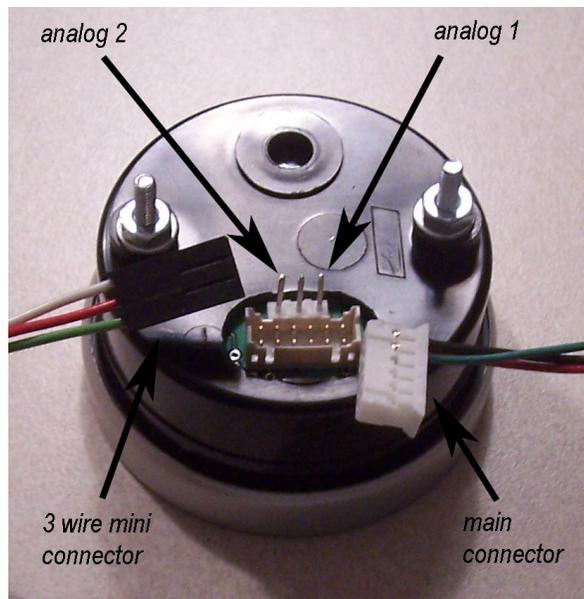

Figure 1
3. **Plug both cables into the back of the *Interceptor*.** See figure 1. Press the *Interceptor(s)* into the gauge pod or mounting hardware.
5. **Connect 3 wire mini connector power if required***. Remove the jumper next to the main connector if connecting to external power. This jumper is required for OBD2 port power only. Connect separate **red** power wire, which exits the middle of the 3 wire mini cable as shown in *figure 1*, to a switched 12v line or circuit in the vehicle. These circuits are commonly known as “accessory” circuits because they are only “hot” when the ignition is turned on. A recommended way of doing this step is to use a product called an “*Add a Circuit*”, made by *Littelfuse*, available at most car parts outlets. These kits, which sell for under \$10, allow you to easily use an existing circuit in the fuse block to power an add-on accessory such as the *Interceptor* without the need to cut or splice any wires. The use of this kit is highly recommended, as most of the problems with the gauge can be traced to a poor selection of a 12v wire, or poor connection. If the gauge randomly turns off and on while driving, 90% of the time it is a poor connection to 12v or an improper circuit was tapped into, such as a signal wire to the instrument panel.
6. **Connect the 0-5v analog inputs (optional).** You will see 3 pins above the main connector on the back of the gauge as shown in *figure 1*. The 2 outer pins connect to the analog inputs. The center pin is for switched 12v power as described above and may not be required. The right side pin, when looking at the rear of the gauge, goes to analog input 1. The left pin is for analog input 2. See *figure 1*. Included in the gauge packaging is a 3 wire cable that connects here. Once attached to the gauge, you'll see that the white wire is for analog 1, the green for analog 2. These inputs can be used to read the outputs from pressure senders, A/F ratio analog outputs, 2 or 3 bar MAP sensors, or any voltage up to 5v that you want to monitor and/or record. You can scale these signals with a menu function described below. ***These inputs are rated for 0-5 volts, with an over-voltage protection circuit built in. However, running more than 6v into these inputs for an extended period of time could effect the operation of the entire gauge, and possible damage it.***